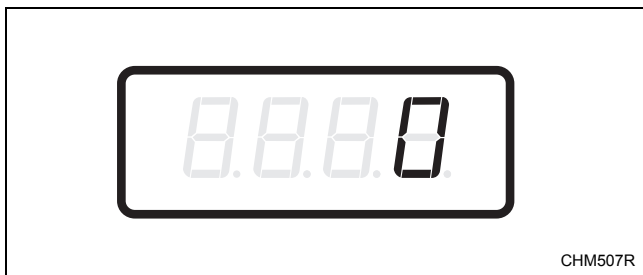

Figure 16
4. When “AtS5” appears in the display, press the START (enter) keypad. There are five digits in the Perm Press Warm Vend Price. The fifth digit will appear in the display and will flash one (1) second on, one (1) second off. Refer to *Figure 16*.